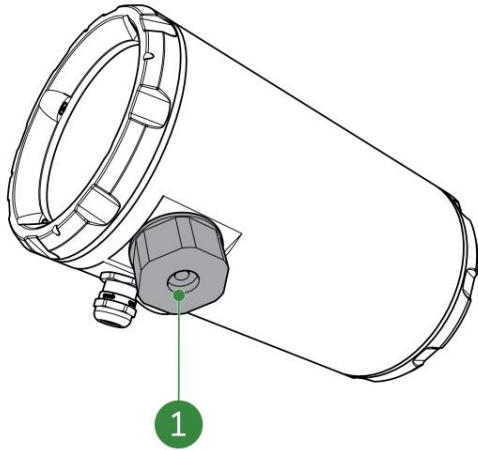

Figure 9-1: Cable gland for PoE cable
1. Remove the split cable gland (Figure 9-1, pos. 1). Make sure to not damage the ethernet cable.